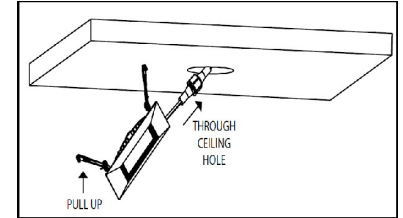

Figure 6
6. Pull the spring clip on the fixture up and through the ceiling hole and place module in the hole making sure the spring clips are holding securely. (Figure 6)